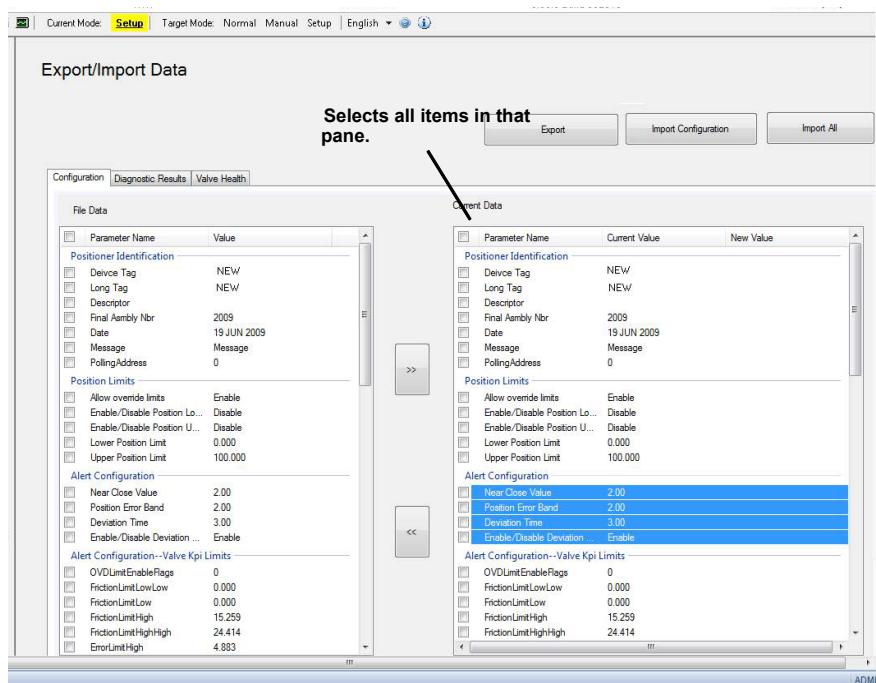

Figure 96 - Import Configuration: Select Desired Data
2. Navigate to the required directory, select the file and click **Open** and Figure 96 appears. This was saved to the default directory - the target directory can be changed, but ensure you record any change.
2. Navigate to the required directory, select the file and click **Open** and Figure 96 appears. The target directory can be changed, but ensure you record any change.